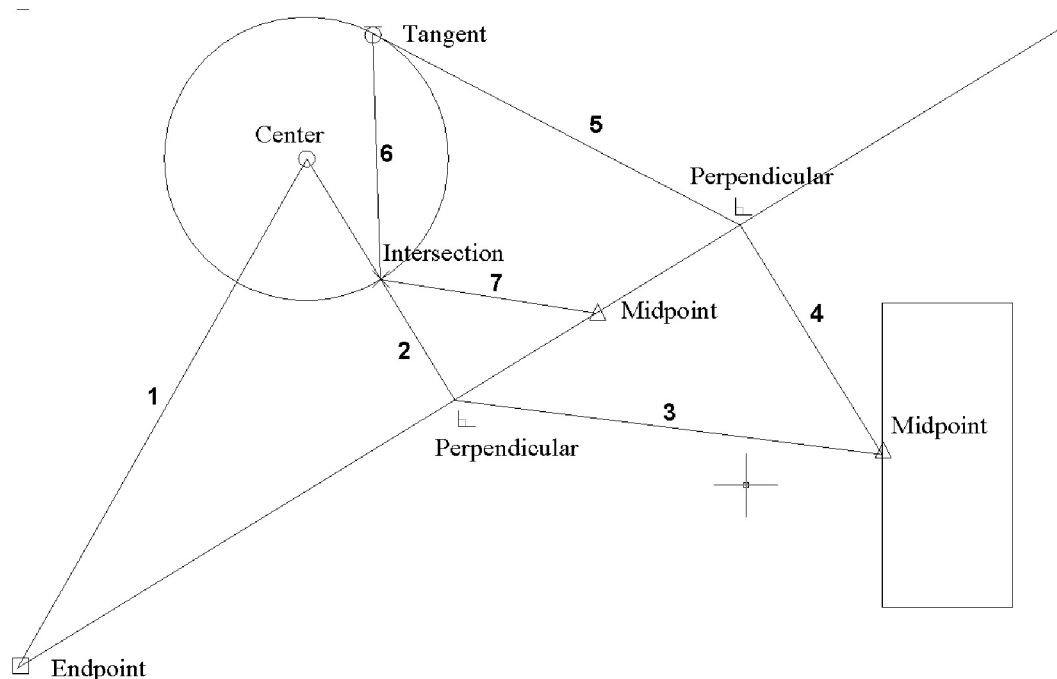

FIGURE 2-2.7 Several lines added using running OSNAPs. The numbers indicate the order in which the lines are to be drawn.
- Draw the additional lines shown in **Figure 2-2.7** using the appropriate *Object Snap* (changing the *Running Snap* as required to select the required point).